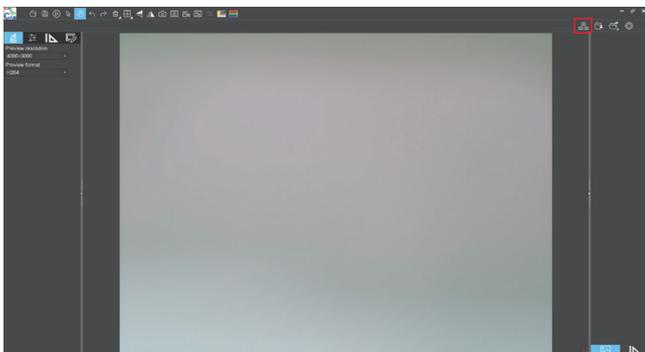
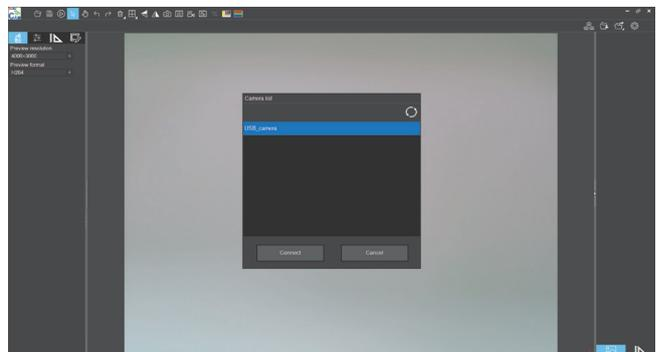

Figure 1
Figure 2
- (1) Connect a Windows PC or laptop that supports 5G WiFi IEEE802.11ac protocol to the same local area network as the camera.
- (2) Install and run the software KoPa Capture Pro on the Windows PC or laptop.
- (3) When there is only one network camera in the local area network, the software can automatically get the live image from the camera.
- (4) When there are multiple network cameras in the same local area network, click the icon "  " in the upper right corner of KoPa Capture Pro (Figure 1), the list automatically shows all cameras in the current local area network (Figure 2), select a camera as needed, support switching midway at any time.